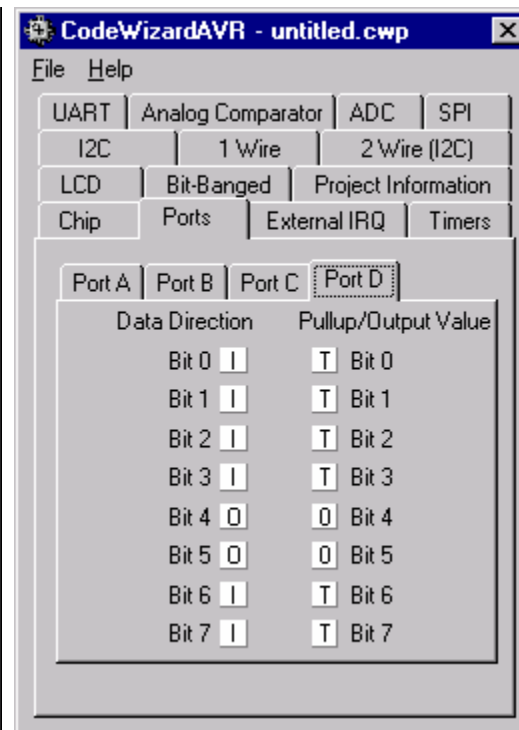

Figure 2: Port D Configuration
**4) Set Data Direction Bits 4 and 5 of PORTD to Output as shown in Figure 2**